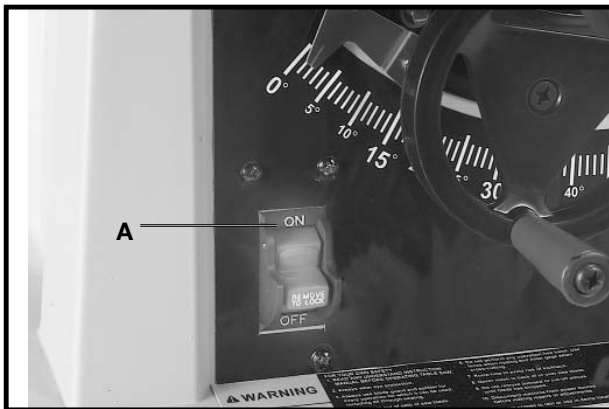

Fig. 29
The on/off switch (A) Fig. 29 is located on the front of the saw cabinet. To turn the saw “ON”, move the switch (A) up to the “ON” position. To turn the saw “OFF”, move the switch (A) down to the “OFF” position.